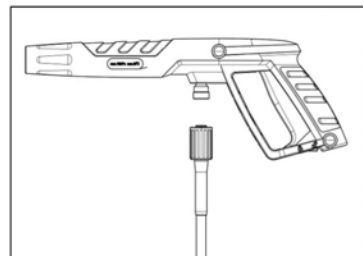

Fig.3
- Connect the silver end of the high-pressure hose to the high-pressure gun and twist the nut to secure the connection (Fig.3)